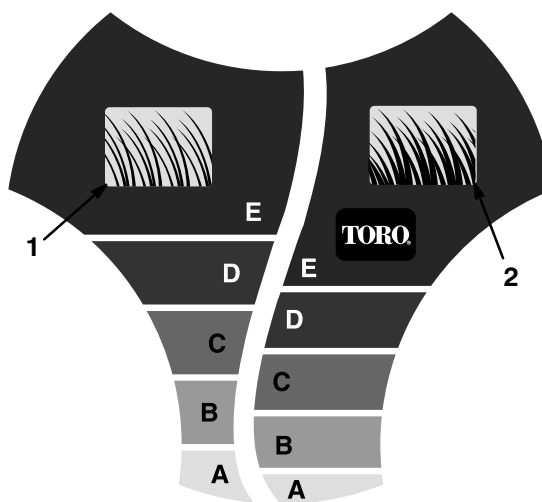

Figure 15
SPARSE/NORMAL and *LUSH* — to ensure the best height-of-cut setting in any mowing condition (Fig. 15). Use the *SPARSE/NORMAL* scale during the warm summer season for the majority of your mowing. The *LUSH* scale is for thick, moist, succulent grass that grows most often in the spring.
1. Before starting the engine, move the lawn mower onto the grass. Stop moving the lawn mower when the letters on the *SmartWheel*™ design on the rear left wheel are upright (Fig. 15).
2. Use the *SmartWheel* design (Fig. 15) to compare the tips of the grass blades to the letters on the wheel. The letter on the *SmartWheel* that matches the tips of the grass blades is the proper cutting height.